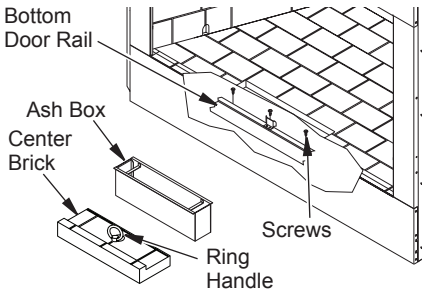

Figure 21 - Installing Bottom Door Rail
3. Remove center brick by pulling ring handle (see Figure 21, page 12).
- Remove three screws located at front of firebox (see Figure 21).